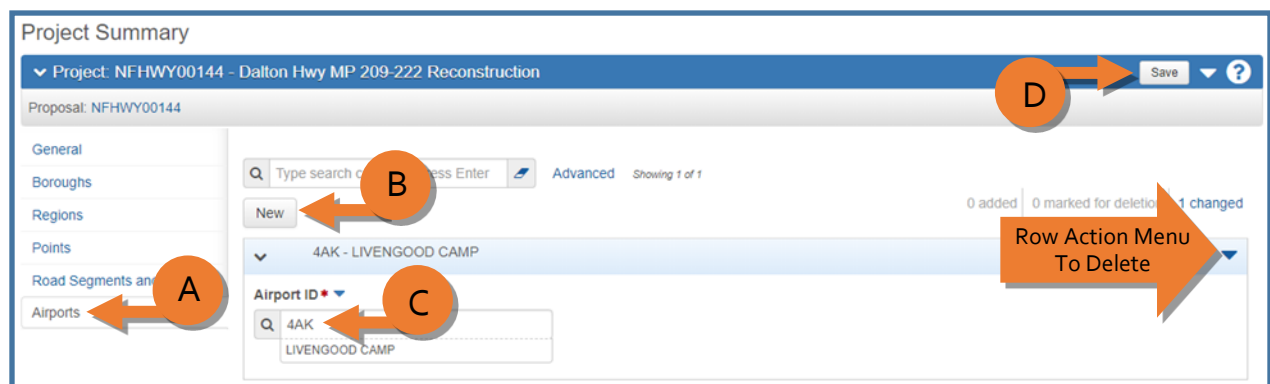

Figure 3.19
1. From the Project Summary component (*Figure 3.19*):
If an airport record needs to be changed, it is not necessary to delete the existing airport record and create a new one. Simply modify the existing record (see *Figure 3.19*).
2. Expand the **row actions menu** on the right side of the airport record and select **Delete** (see *Figure 3.19*). The airport record is marked for deletion and users may "undo"  the action until the user clicks **<Save>**.